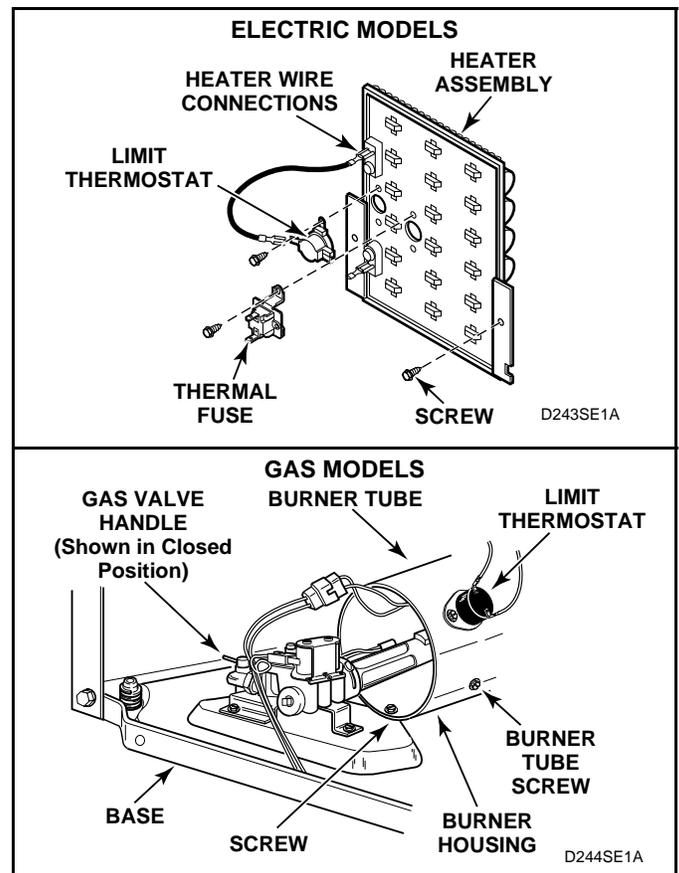

Figure 38
- d. Remove screw from right side of burner housing, while holding burner tube in place. See *Figure 38*.
- i. Remove screw holding front of burner housing to dryer base and remove housing out through front of dryer. See *Figure 38*.
- c. Disconnect wires and remove screws holding limit thermostat to burner housing (gas models) or element plate (electric models). See *Figure 38*.
- c. Disconnect wires from element and plate. See *Figure 38*.
- d. Remove two screws holding element and plate to heater box and remove element and plate out through front of dryer. See *Figure 38*.